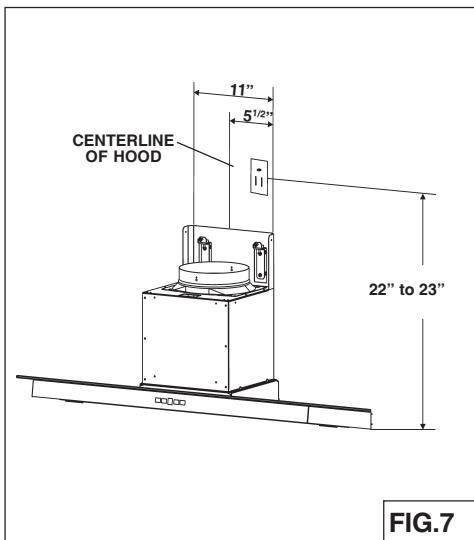

FIG.7
2. Install a standard 2" x 4" wall outlet box and 3-blade 125 volt, 15 Amp grounded receptacle (Fig.7).